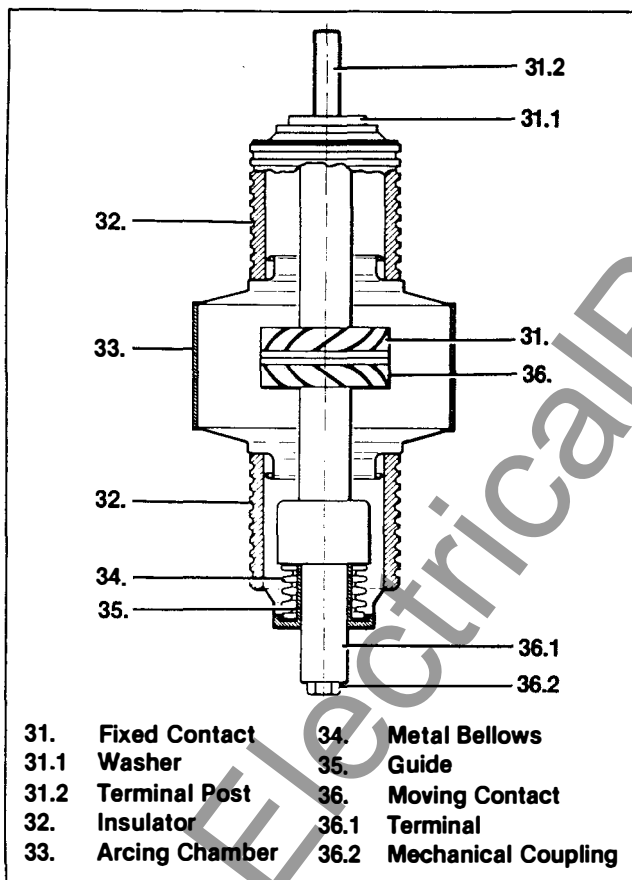

Figure 2. Section through a Vacuum Interrupter
The basic construction of the interrupter can be seen from Figure 2. The moving contact 36 moves in guide 35. The metal bellows 34 follows the travel of the moving contact and seals the interrupter against the surrounding atmosphere.
The current flows from the upper terminal 27 through the fixed contact terminal washer (Figure 2 items 31.1) the fixed contact (Figure 2 item 31) the movable contact (Figure 2 item 36) the movable contact terminal post (Figure 2 item 36.1), which is connected with the lower terminal 29 by terminal clamp 29.2, and flexible strap 29.1.
The vacuum interrupter becomes open by the movable contact (Figure 2 item 36) moving in guide (Figure 2 item 35). The metal bellows (Figure 2 item 34) follows the travel of the moving contact and seals the interrupter against the surrounding atmosphere.